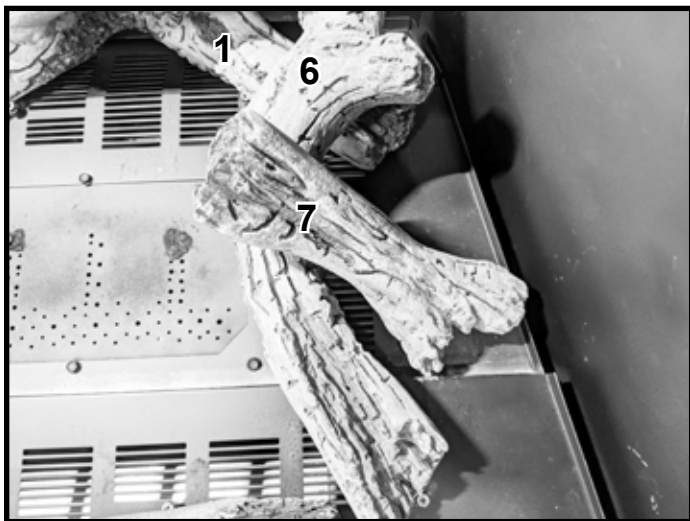

Figure 12 Place Log # 7
**Log #7:** Place Log #7 as shown in Figure 12. The forked end rests on the base pan.